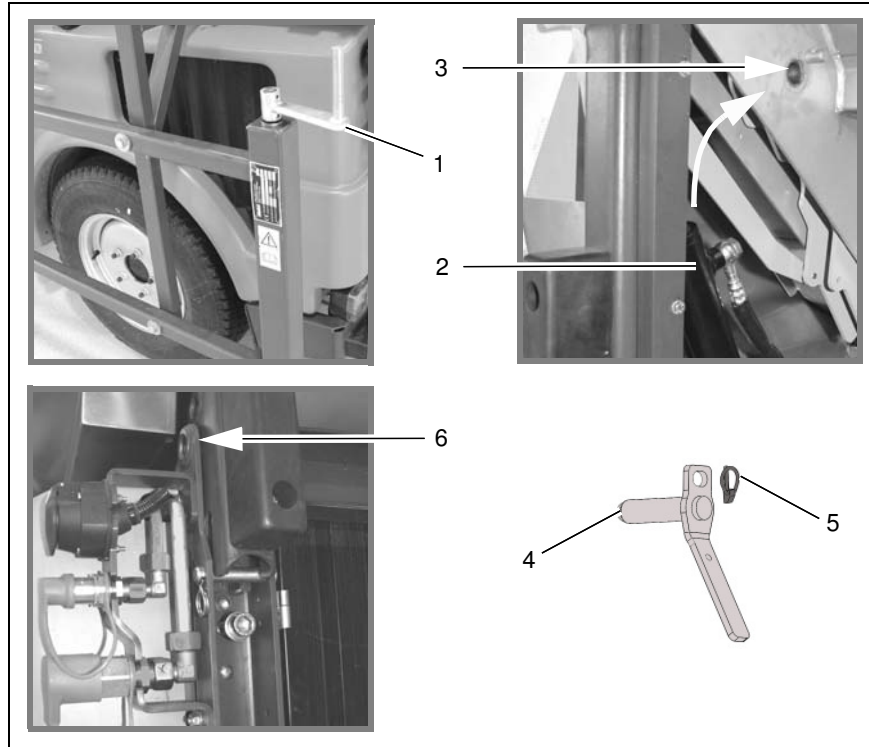

Fig.34
5. Lower the dirt hopper using the crank (Fig. 34/1) uniformly and in parallel until the holes (Fig. 34/3) for the lifting cylinder (Fig. 34/2) are aligned.
6. Attach the lifting cylinder using locking bolts (Fig. 34/4) and secure with a linchpin (Fig. 34/5).
7. Continue lowering the dirt hopper uniformly with the crank, until the holes (Fig. 34/6) for the locking bolt are aligned.